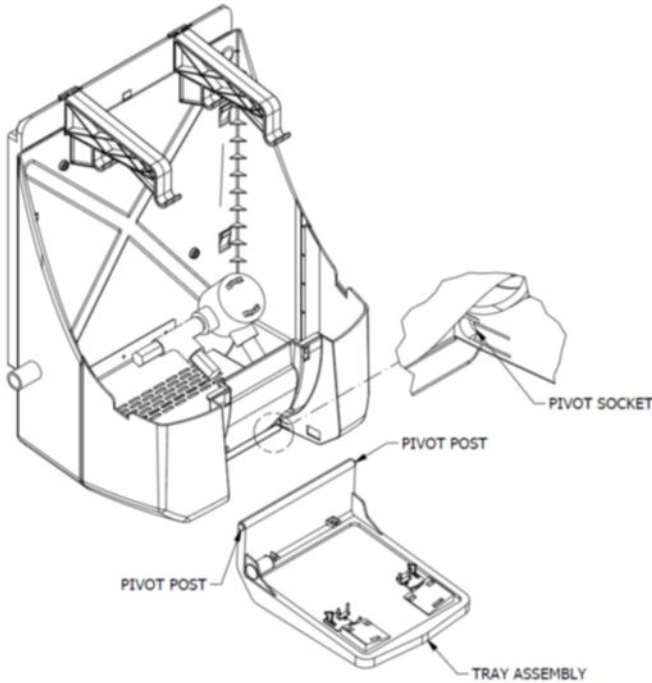

FIGURE 5
Step 4. Tray Assembly (Ref Figure 5) *Lower Insulated Jacket not shown for clarity.*